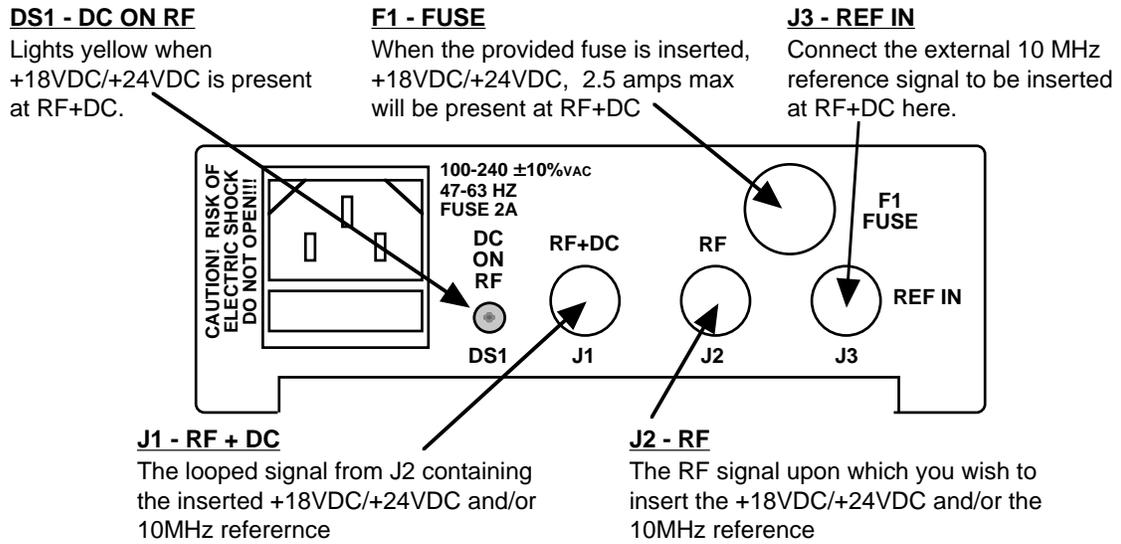

FIGURE 2.2 Rear Panel I/Os
2.2 Rear Panel Input/Output Signals - Figure 2.2 shows the input and output connectors on the rear panel.
1. Connect an RF signal to RF connector, J2 (Figure 2.2).
2. Connect RF+DC connector, J1, to the external equipment (Figure 2.2).
3. To insert +18 VDC/+24 VDC on the RF signal insert a 1 amp fuse (provided) in fuse holder, F1 (Figure 2.2).
4. To insert a 10MHz reference signal on the RF signal connect a 10MHz source to the REF IN, J3 (Figure 2.2).
5. Connect 100-240 \pm 10% VAC, 47 - 63 Hz to AC on the back panel (Figure 2.2).
7. If fuse, F1, is inserted check that SSPB Power LED, DS1, is on (Figure 2.2)